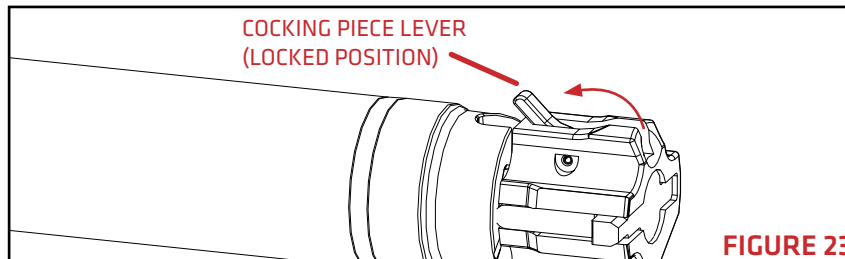

FIGURE 23
3. Rotate the cocking piece lever forward until the lever is locked in place. (FIGURE 23).